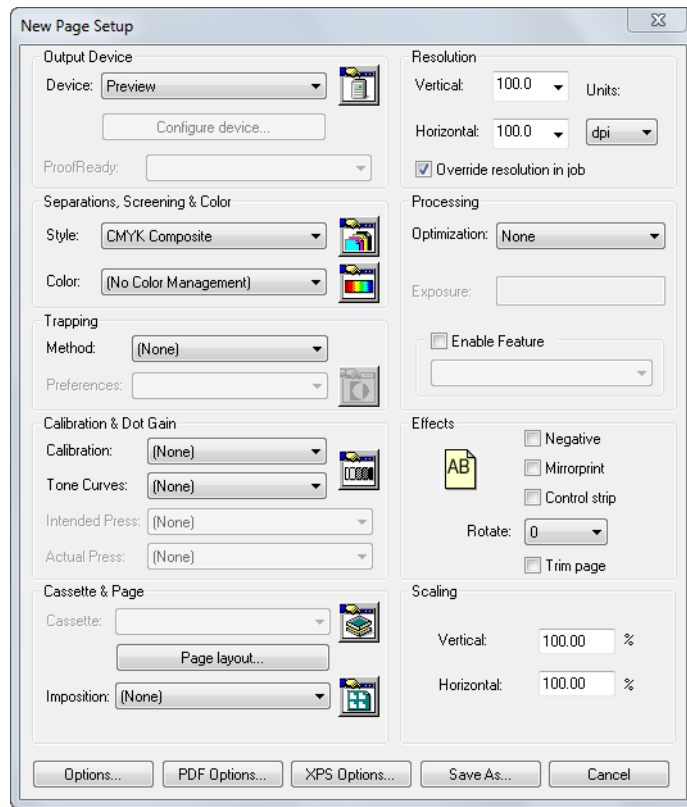

Figure 3.2 New Page Setup dialog box
3. In the Edit Page Setup dialog box, shown in Figure 3.2, set the **Device** to `None` and the **Vertical** and **Horizontal** resolutions to something small, say 72 dpi. If you change the **Device**, you must choose a separations style listed in the **Style** drop-down list and, for some devices, a cassette name from the **Cassette** drop-down list.
2. In the Page Setup Manager dialog box, select `Default Page Setup` and click **Copy** to display the New Page Setup dialog box. The New Page Setup dialog box is very similar to the Edit Page Setup dialog box, shown in Figure 3.2 on page 59.